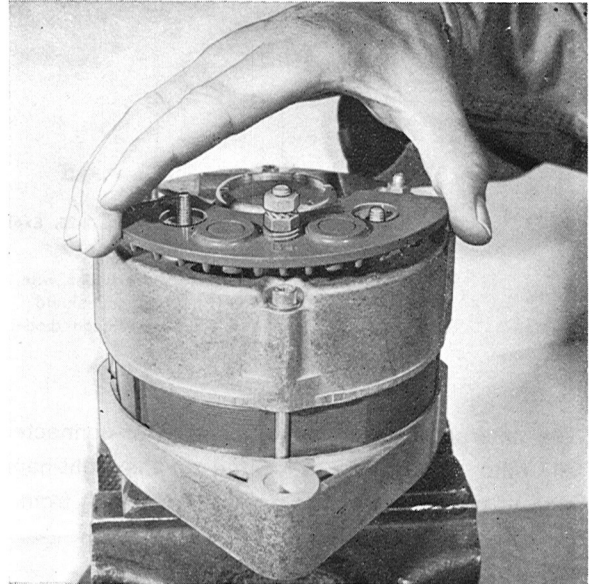

Fig. 3-30. Removal of insulation diodes
3. Remove nuts and washers on terminal 61 and the corresponding on the other side of the insulation diode. Lift off insulation diode holder, see Fig. 3-30.